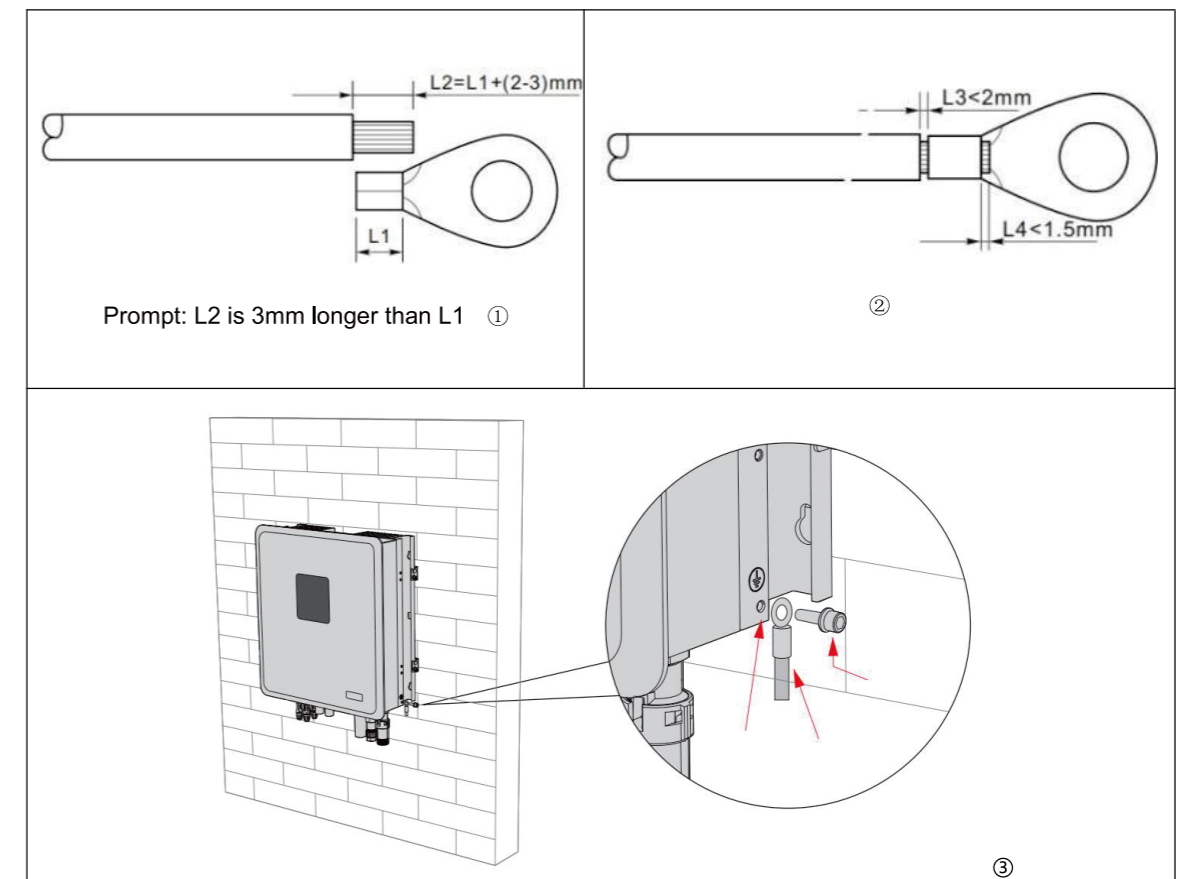

Figure 9: Diagram of connection of the earthing wire
- Step 1: Strip the insulation layer of an appropriate length of the earthing cable with the wire stripper (Figure 9 ①).
- Step 2: Thread the stripped wire core into the conductor crimp area of the OT terminal, and crimp it with a crimper (Figure 9 ②). It is recommended to use the OT terminal: OTM6, the diameter of the recommended earthing wire is $\geq 6\text{mm}^2$.
- Step 3: Fix the OT terminal with M5 screws in the position shown in Figure 9 ③, with the recommended locking torque of 2N.m.